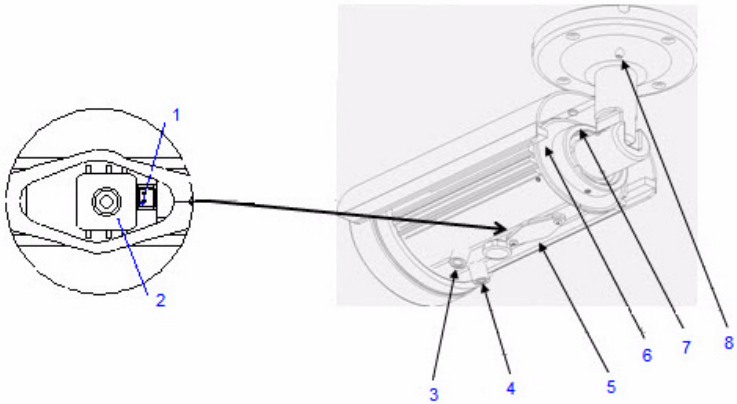

Figure 4.1 WZ20 Configuration
2. Adjust the focus knob as necessary (see *Figure 4.1* above).
2. Adjust the zoom knob as necessary (see *Figure 4.1* above).